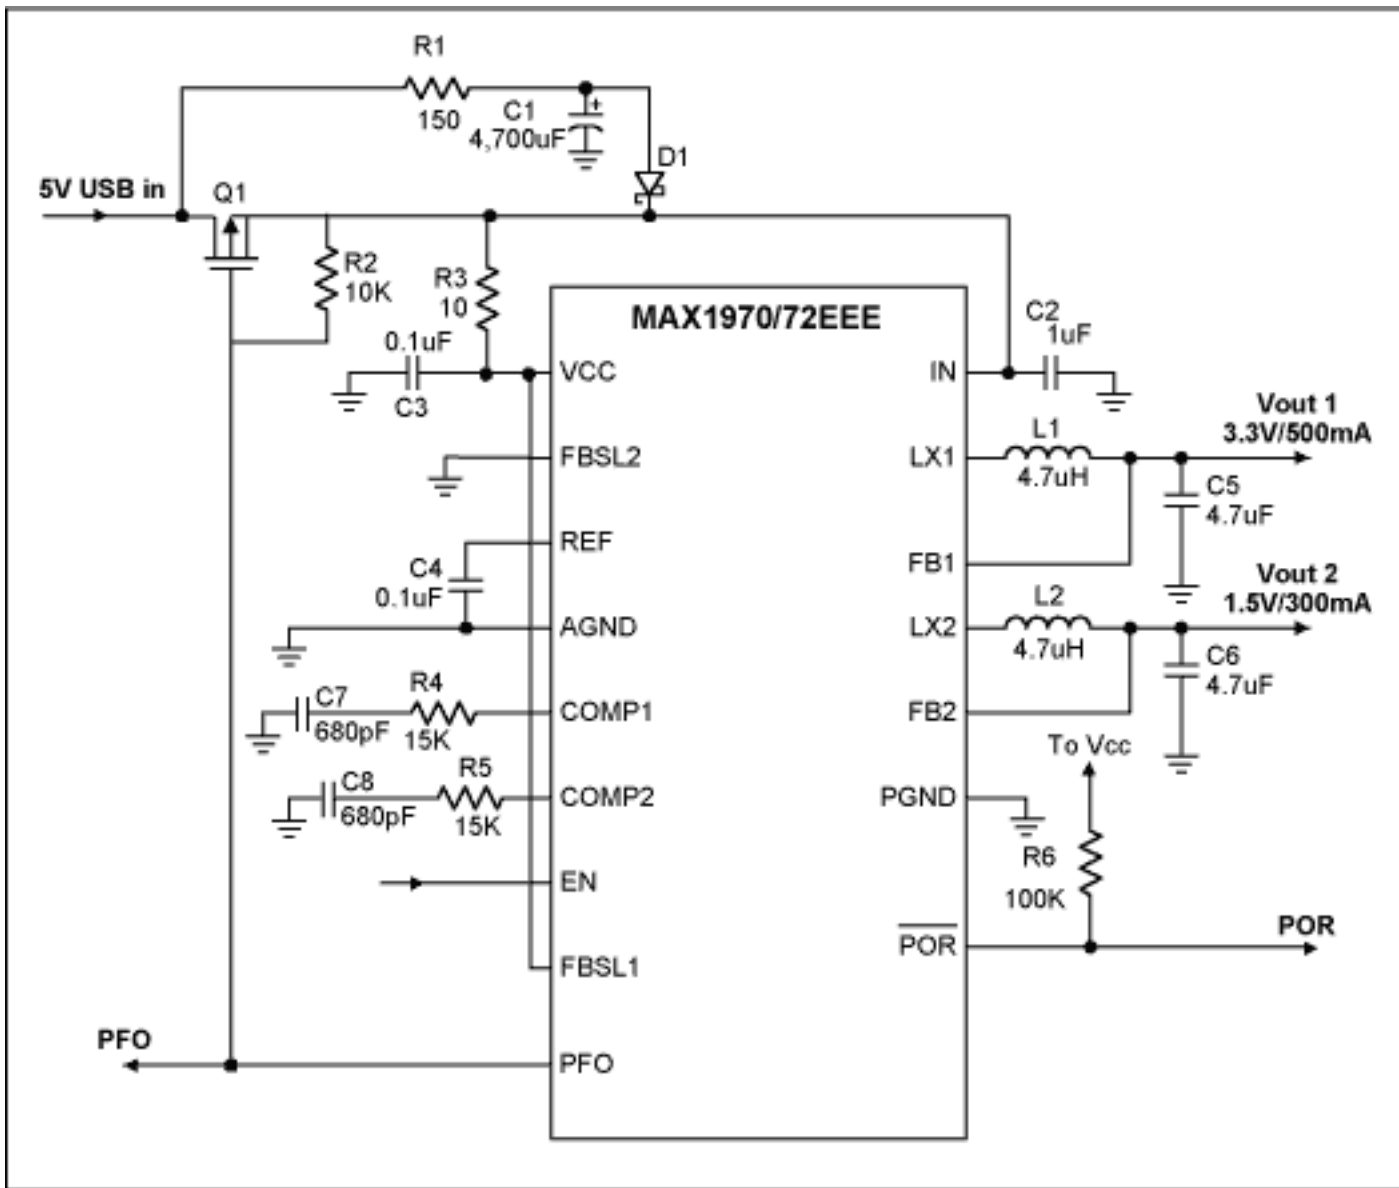
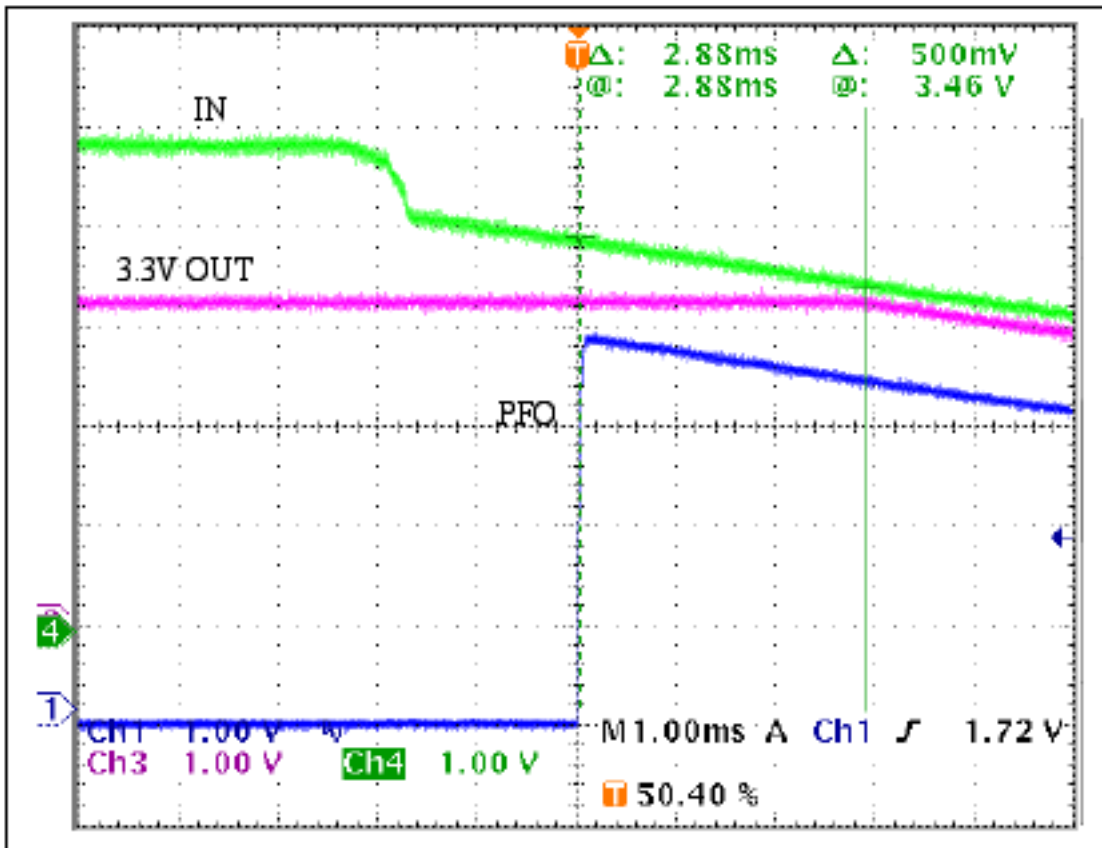

Figure 1. Typical application circuit for 5V USB dying gasp application.
Figure 2. Input power fail (PFO) warning time.
For dying gasp applications, there must be a local energy storage capacitor that will power the device and prolong its operation for orderly shut down when USB power is lost. The loss of USB power is sensed and a warning signal is issued. To meet the dying gasp warning time, the energy storage capacitor value needed is much larger than the 10uF allowed. The circuit in **Figure 1** is designed to solve this problem.
Under normal operation, input current to the MAX1970 flows through Q1, and C1 is charged to ~5V USB in. When the 5V USB power fails or turns off, the energy stored in C1 provides power via D1. As C1 discharges to the MAX1970 input power fail (PFO) threshold of 3.94V, PFO goes high to turn off Q1, and issues an input power warning while both outputs are still in regulation. C1 continues to discharge and the higher output voltage (3.3V) drops out. The power fail warning time is measured from the time PFO goes high to the time when the 3.3V output drops out of regulation. **Figure 2** shows the typical PFO warning time of 2.88mS for the circuit in Figure 1, when 3.3V and 1.5V are loaded at 500mA and 300mA respectively.
The top trace in Figure 2 is the voltage at the MAX1970 IN pin. As the 5V USB input is turned off and the storage capacitor C1 starts to supply the energy to the DC/DC converter, the voltage at the IN pin drops, due to forward voltage of D1. As C1 continues to discharge to the PFO threshold, PFO goes high and turns off Q1. C1 further discharges until the 3.3V output starts to droop, when IN is about 3.5V.
For the circuit in Figure 1, when 3.3V and 1.5V are loaded at 500mA and 300mA respectively, the input power calculated by equation (1) is 2.33Watts at n = 90%. The average current supplied from C1 as calculated by
equation (2) is 628mA. Finally, the warning time calculated by equation (3) is 3.28mS, which agrees with the oscilloscope plot of Figure 2 to within the 20% tolerance of C1.